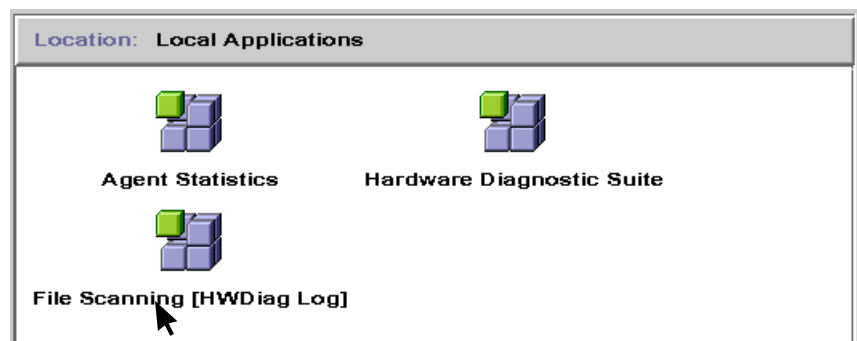

FIGURE 4-3 Details Window (Browser View), Selecting File Scanning
4. Double-click on File Scanning [HwDiag Log] in the topology view (FIGURE 4-3).